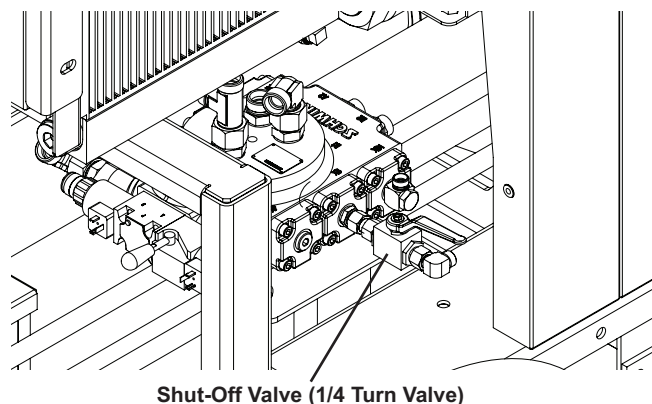

Figure 12
2. Close the shut-off valve (Figure 12).